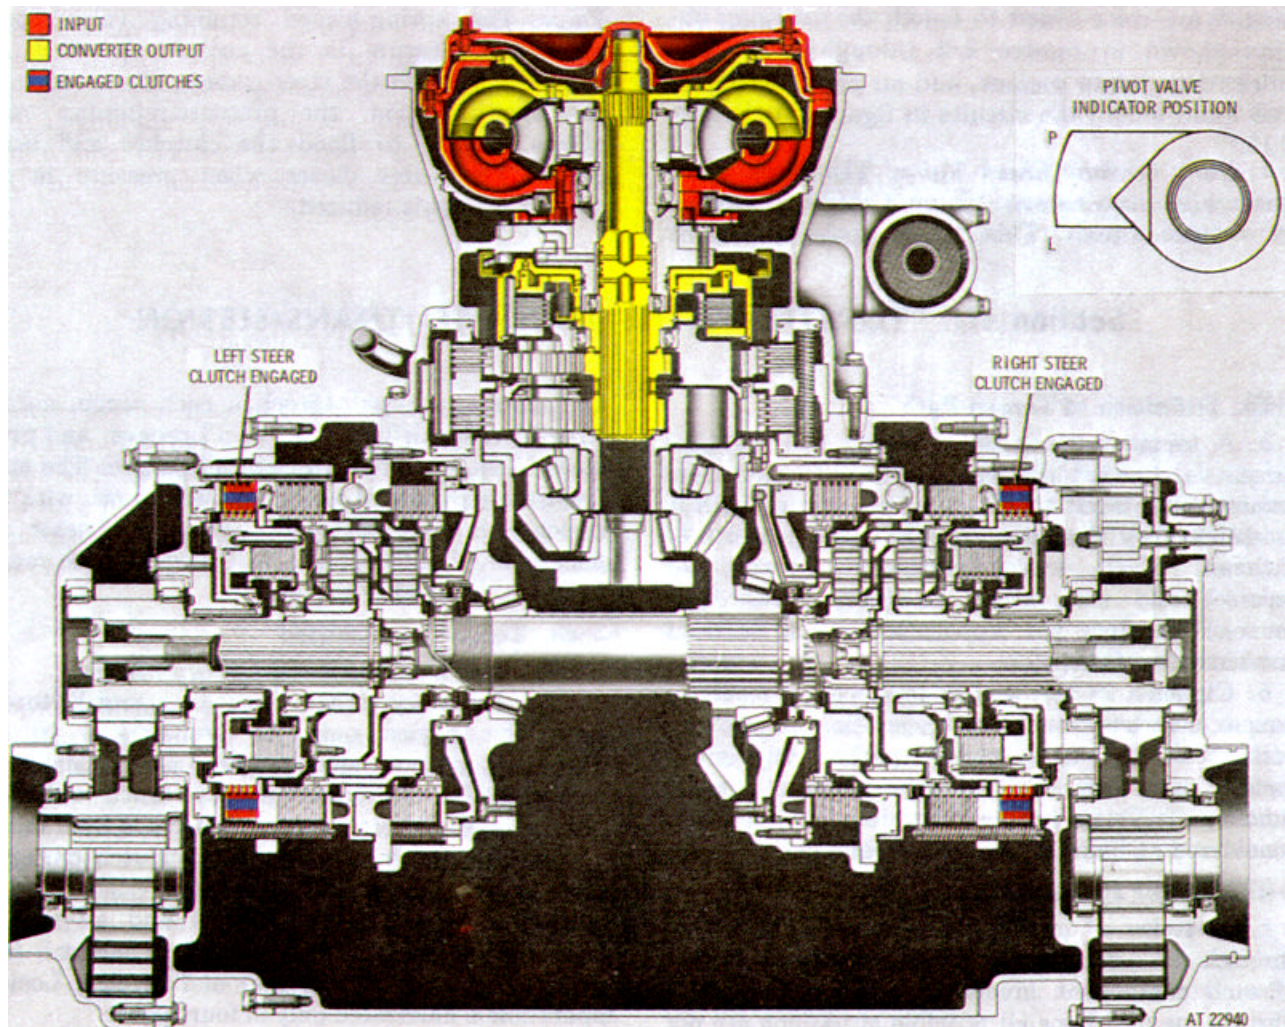

Figure 2-14. Neutral operation-torque path.
a. A series of cutaway illustrations (fig. 2-14 through fig. 2-32) are color coded to show the function of each component involved in the torque path. The torque paths for all possible situations are not shown because the explanation of steer toward one direction serves to explain the opposite steer, and because converter to lockup operation can be employed, as desired, in the power flows.
2-49. Neutral Torque path (fig. 2-14)